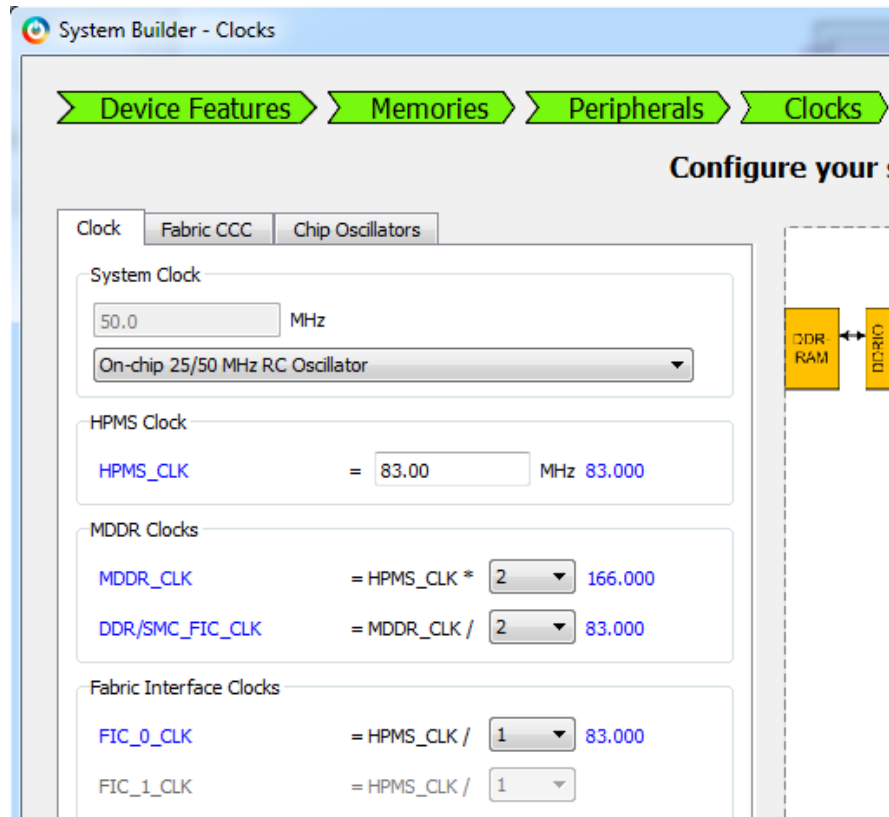

Figure 7 • System and Subsystem Clocks Configuration
9. Click the **Clock** tab. The **Clock** window is displayed as shown in Figure 7.